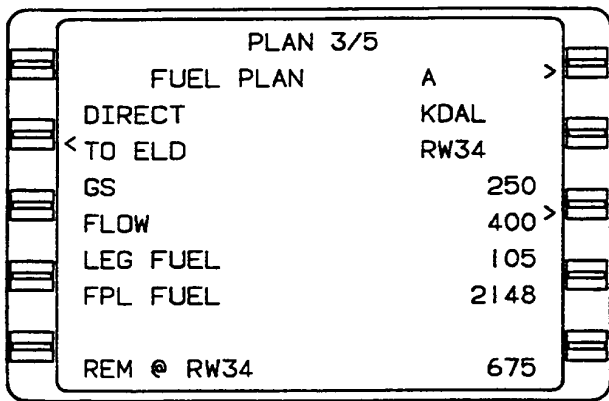

Figure 3A-40. Plan 3/5 Page, Fuel Plan
(3) *Plan 3/5 Page, Fuel Plan*. Refer to Figure 3A-40.